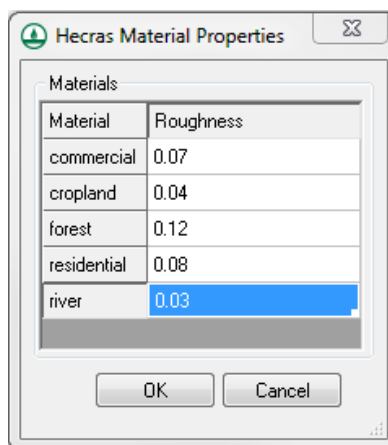

Figure 5 HEC-RAS Material Properties dialog
5. Enter the roughness values for each material as shown in Figure 5.